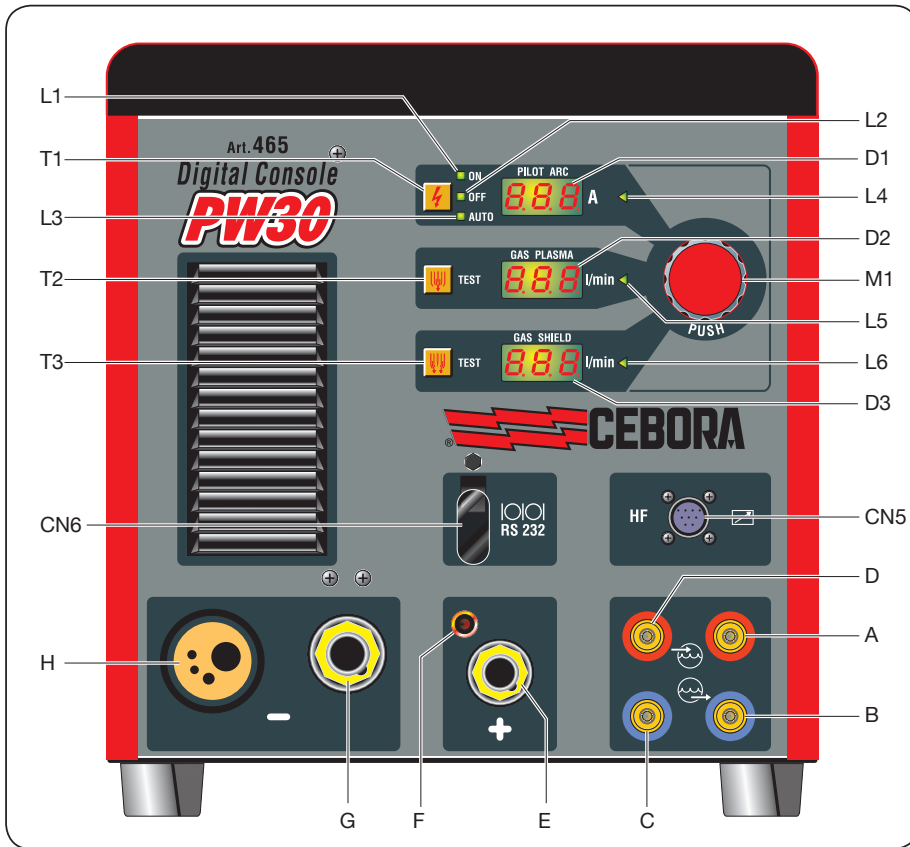

fig. 4a
4.2 Controls and adapters (figures 4a and 4b).